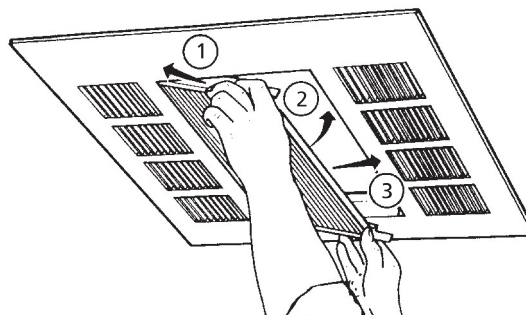

Figure 11
4. While holding the assembly together with both hands, fit one side of assembly into the opening of the enclosure, and slide this side inward while fitting the opposite side into the enclosure (see Figure 11.) Slide the assembly into position so that the bottom portion of each guide locks into the opening.